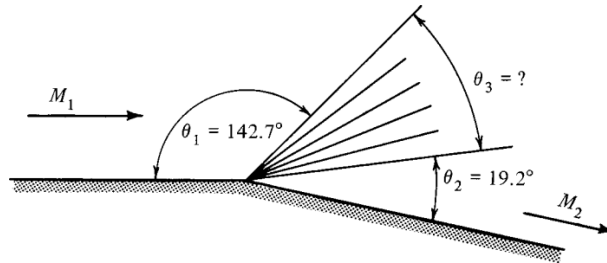

Figure P8.2
- 8.2** A Schlieren photo of the flow around a corner reveals the edges of the expansion fan to be indicated by the angles shown in Figure P8.2. Assume that $\gamma = 1.4$.
- (a) From Figure P8.2, we gain $\theta_1 = 147.2^\circ$, $\theta_2 = 19.2^\circ$.